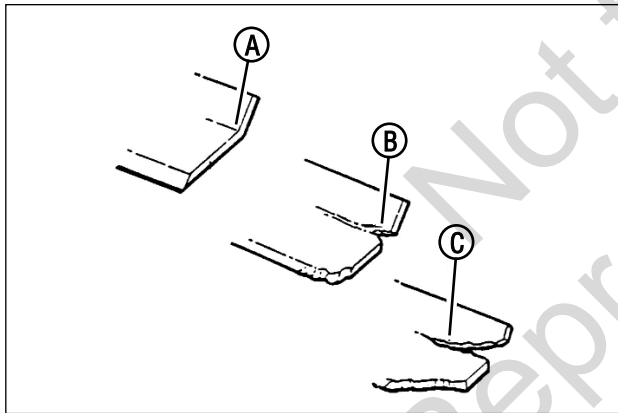

Figure 19: Standard blade wear limits
1. Inspect the blade (**Figure 19**) frequently for signs of excessive wear or damage:
- (A) New blade
- (B) Wear limit (notch starts)
- (C) Dangerous condition! Do not use on the mower!